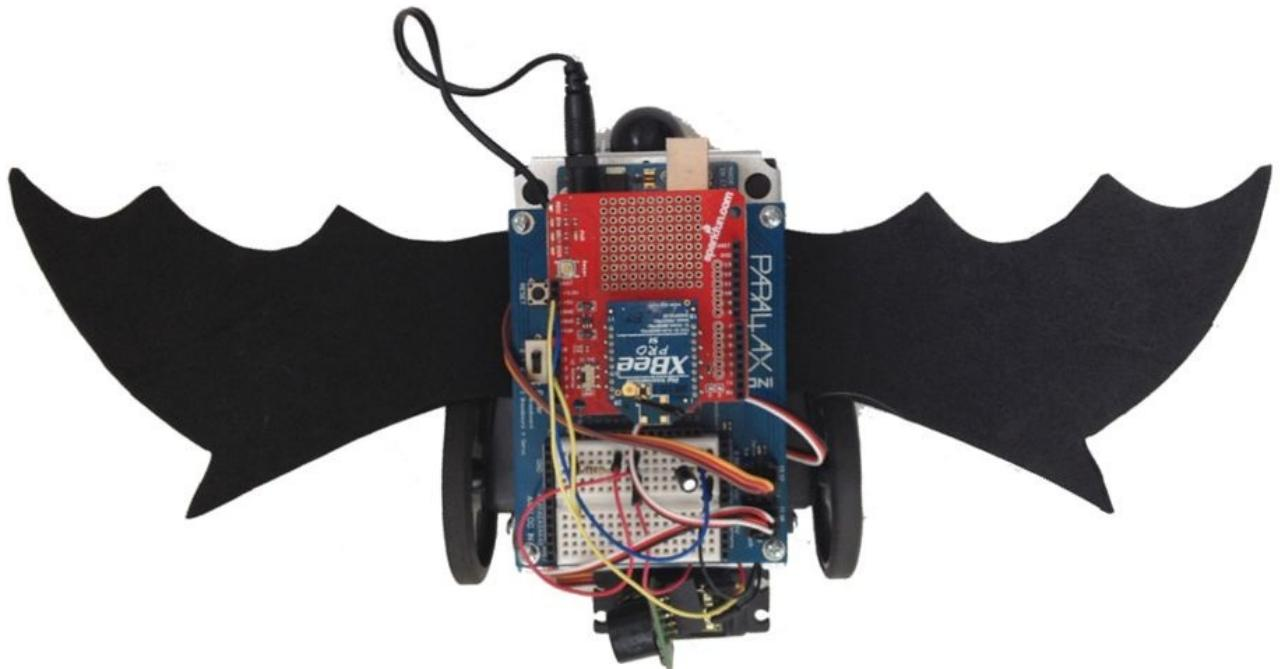

Figure 12-1. BatBot
In this chapter, I'm going to talk about artificial intelligence (AI) and three categories of artificially intelligent robots (remote-controlled, semi-autonomous, and fully autonomous). And then you're going to build BatBot, as shown in Figure 12-1, a semi-autonomous robot.